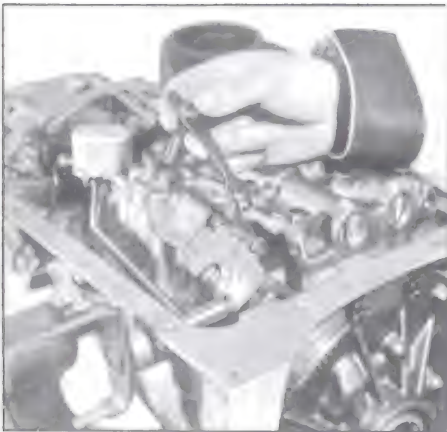

Figure 5-511
1. Remove the control valve body attaching screws and detent roller and spring assembly. See Figure 5-511.